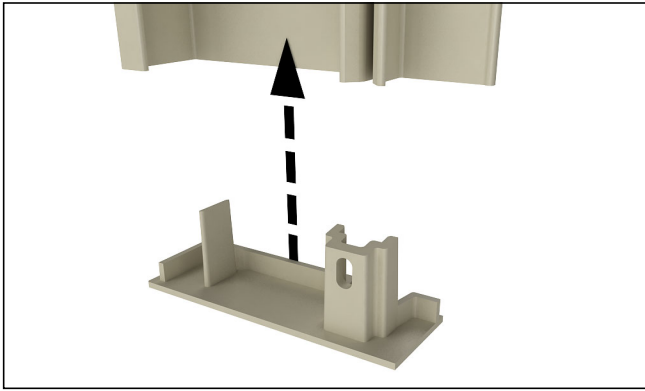

Figure 65
3. Attach a modified end caps with supplied screws to bottom of jamb pieces. See *figure 65*.